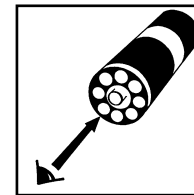

Figure 5
- a. Place the VACUette ampoule, flat end downward into the center tube of the low range comparator. Direct the top of the comparator up toward a bright source of light while viewing from the bottom. Rotate the comparator until the color standard below the ampoule shows the closest match (fig 5).